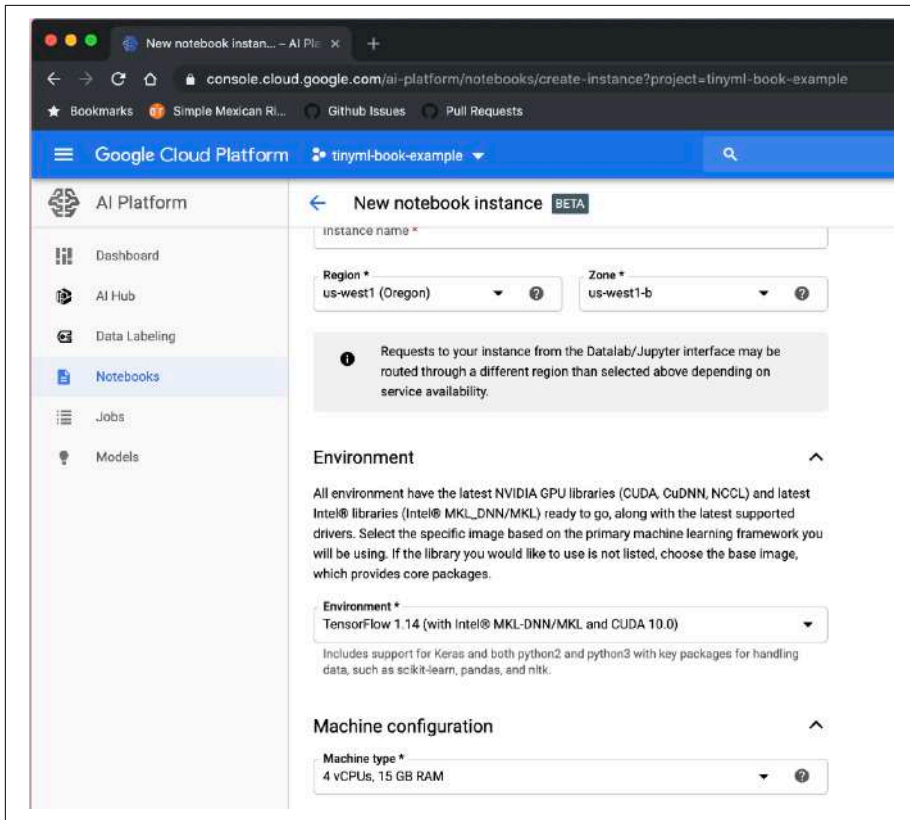

Figure 10-5. The CPU and version interface
8. In the "Machine configuration" section, choose at least 4 CPUs and 15 GB of RAM, as shown in Figure 10-5.